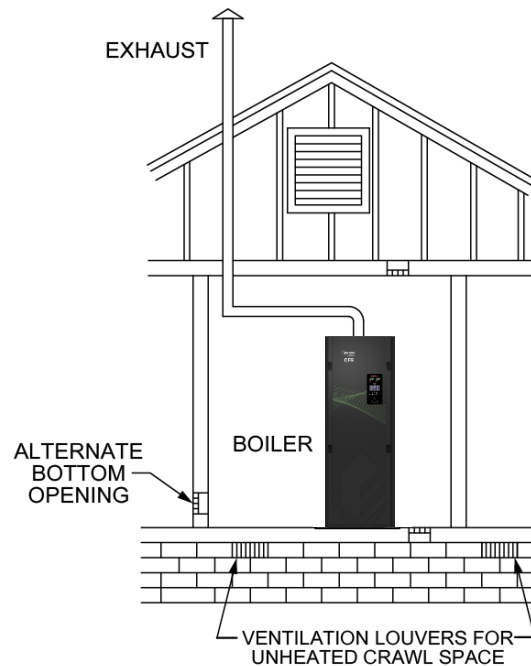
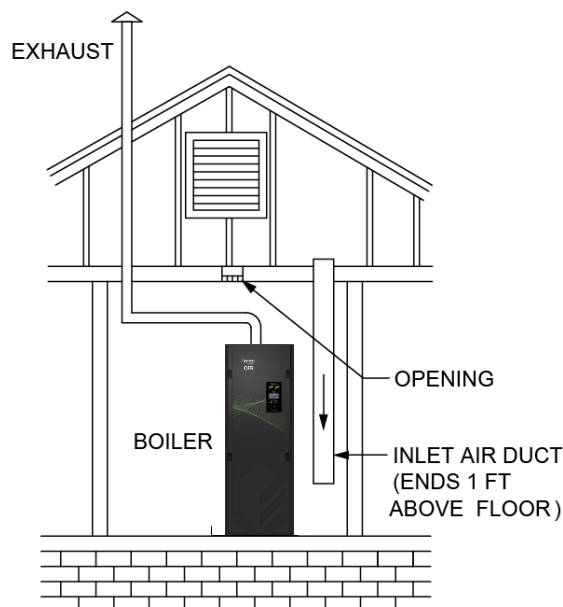

Figure 8-2: All Combustion Air from Outdoors - Inlet Air from Ventilated Crawl Space and Outlet Air to Ventilated Attic
Figure 8-3: All Combustion Air from Outdoors - Through Ventilated Attic
1. When communicating directly with the outdoors or to the outdoors through vertical ducts, each opening must have a minimum free area of **1 inch² per 4,000 BTU/hr. (550 mm²/kW)** of total input rating of all appliances in the space (see Figure 8-2 and Figure 8-3).